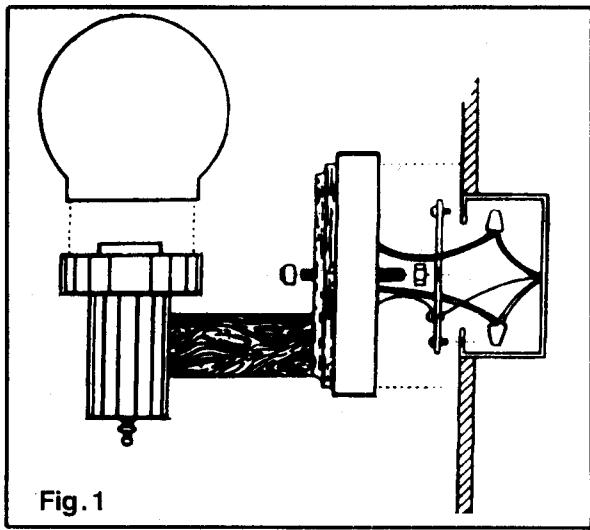
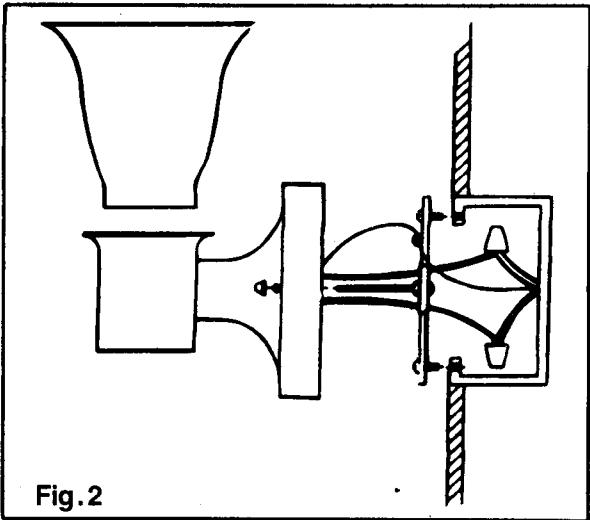

Fig. 1
Fig. 2
2. Some fixtures are provided with a threaded nipple (see Fig. 1) or machine screws (see Fig. 2 and 2A) for attaching the fixture to the mounting bracket. If your fixture is supplied with a threaded nipple, screw the nipple 3 complete turns into the mounting bracket and lock into place with a hexagon lock nut. If your fixture is supplied with machine screws, thread the machine screws into the opposite side of the mounting bracket from the green ground screw. Lock the machine screws into